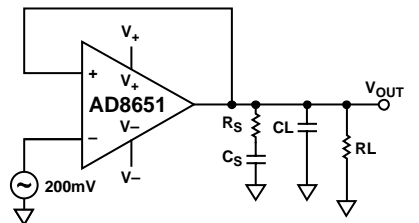

Figure 56. Snubber Network
2) Another way to stabilize an op amp driving a large capacitive load is to use a snubber network, as shown in Figure 56. Because there is not any isolation resistor in the signal path, this method has the significant advantage of not reducing the output swing. The exact values of R_S and C_S are derived experimentally. In Figure 56, an optimum R_S and C_S combination for a capacitive load drive ranging from 50 pF to 1 nF was chosen. For this, $R_S = 3 \Omega$ and $C_S = 10 \text{ nF}$ were chosen.